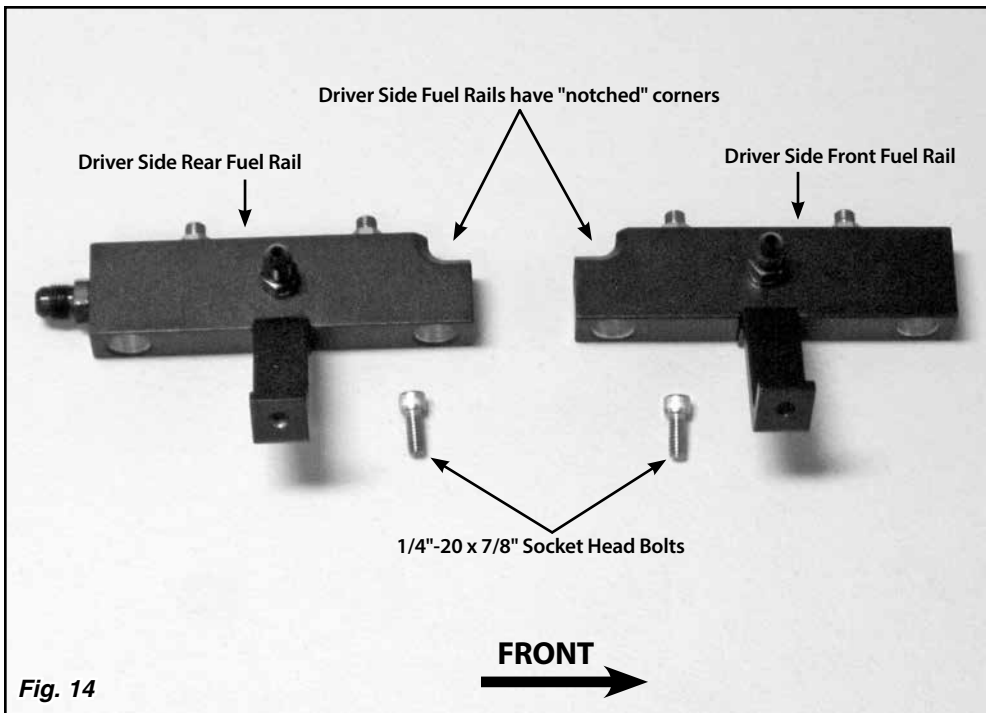

Fig. 14
**Step 14:** Determine the correct position of the four fuel rails on the lower manifold. Note that the driver side rear and passenger side rear fuel rails (with the -6 AN fittings on the ends) will be installed with the -6 AN fittings pointing towards the rear of the engine. Two of the fuel rails are "notched" in one corner to provide clearance for the throttle body adapter and will be installed on the driver side of the manifold. **Fig. 14**